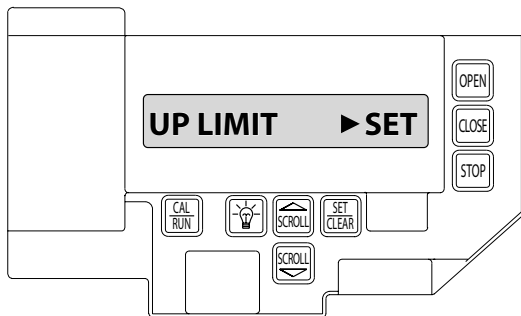

Fig. 6
- 2) Press SET/CLEAR key to switch display to "UP LIMIT>SET". Figure 6.